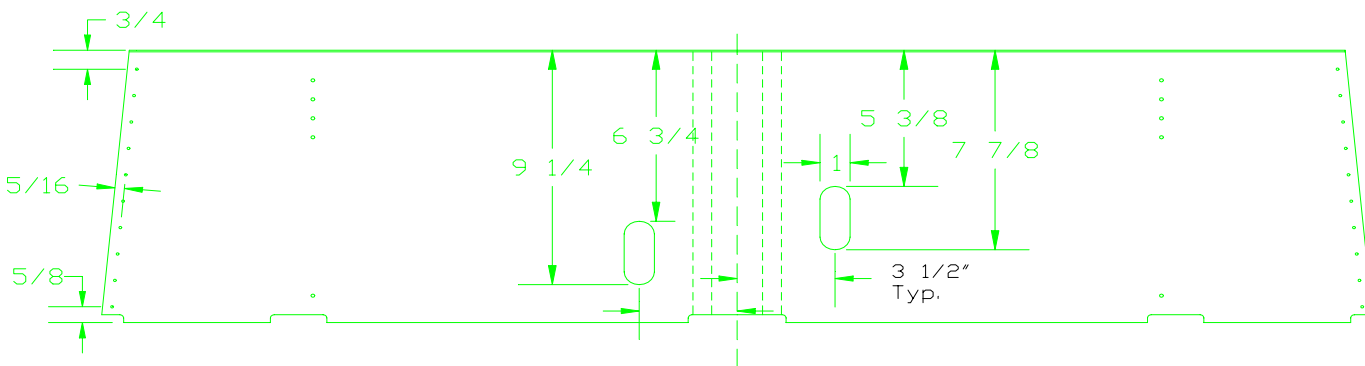

FIGURE 3
- 5) To the floor skin add the #40 holes and 1" slots shown in Figure 3.